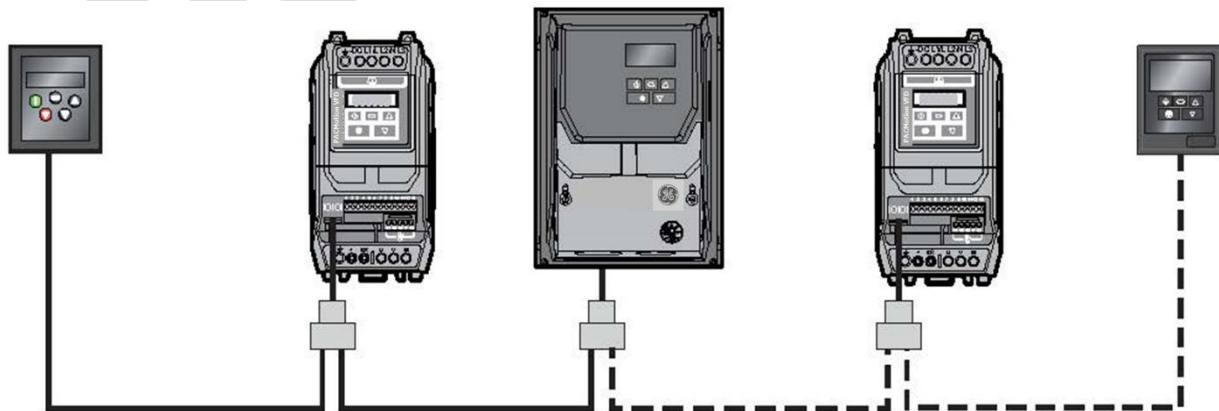

Figure 87: Networked PACMotion Drives Communicating with Two Remote Keypads
- Any combination of PACMotion VFDs with one (or a maximum of two) remote keypads (Figure 87). The drives on the network may consist of any combination of drive types. The network is limited to 64 devices maximum.